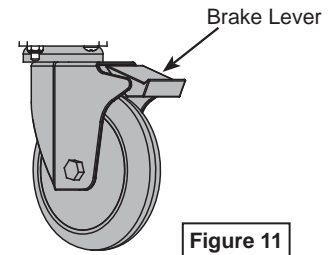

Figure 11
1. To lock the wheel direction, align each wheel with the cart width and depress the brake lever. **Figure 11.** (Each wheel can be locked at 180° intervals)